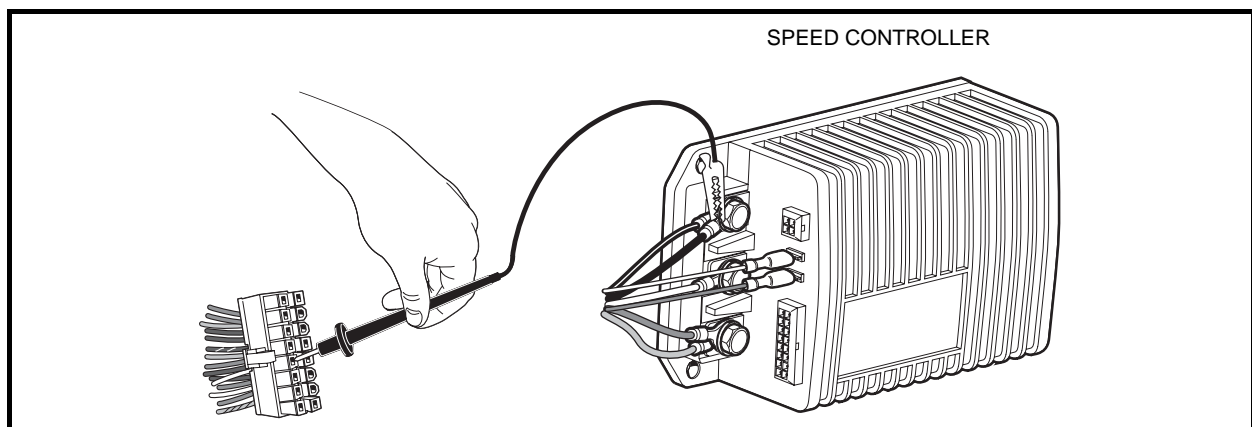

Figure 11-20 Pin 12 Test
4. Place a jumper wire with an alligator clip between the B– terminal of the speed controller (use alligator clip for this connection) and pin 12 (blue/white wire) of the 16-pin connector (**Figure 11-20, Page 11-34**). **See following CAUTION.**